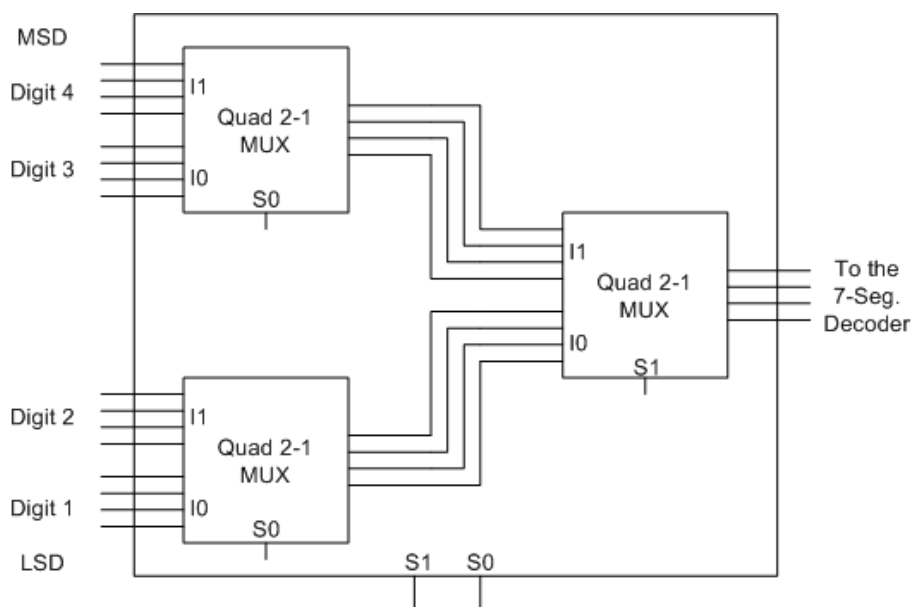

Figure 8.1: Quad 4-1 Multiplexer.
- On a new sheet design a macro for a quad four-to-one multiplexer, call it Q4-1MUX. You can utilize the quad two-to-one multiplexer available in the Spartan library (X74_157) see Figure 8.1. .